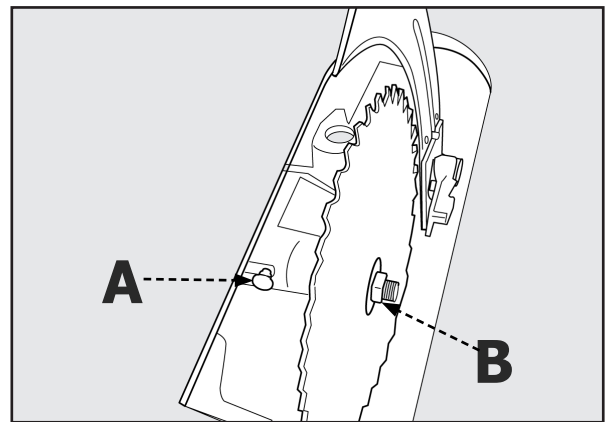

FIGURE 21
2. Push and hold arbor lock button (A) shown in Figure 21.
3. Use included arbor wrench to remove the blade by turning counter clockwise and retaining nut and flange (B). Remove old blade.